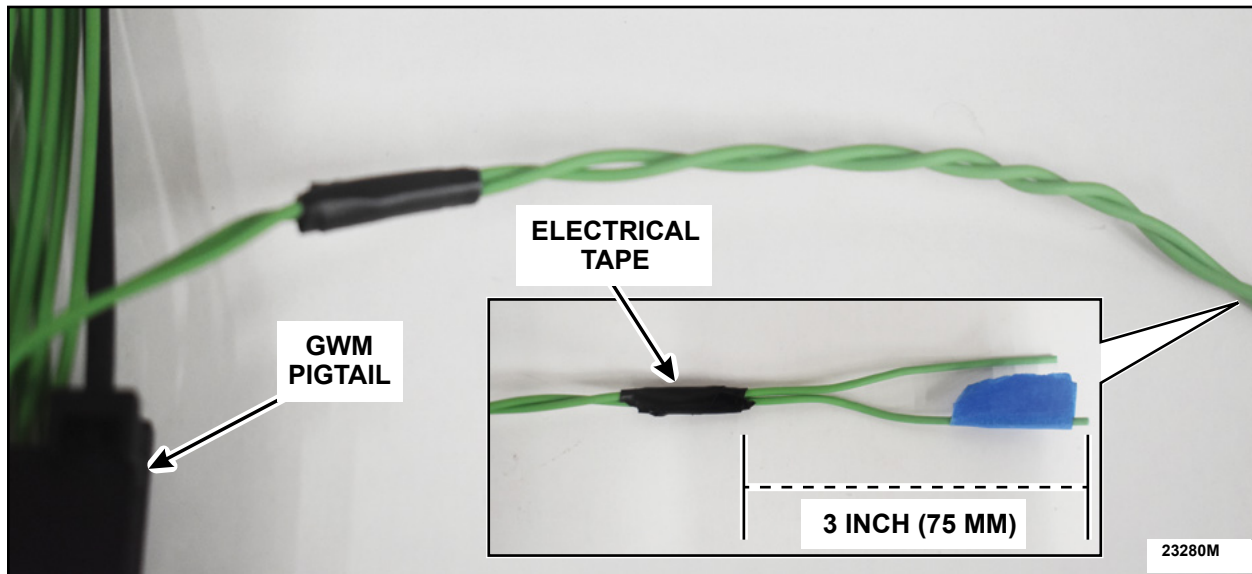

FIGURE 9
22. Twist pins 19 and 20 together working towards the splice end and stop leaving 3 inches (75 mm) of wire at the end of the pig tail. Apply a piece of electrical tape at the 3 inch (75 mm) mark. See Figure 9.